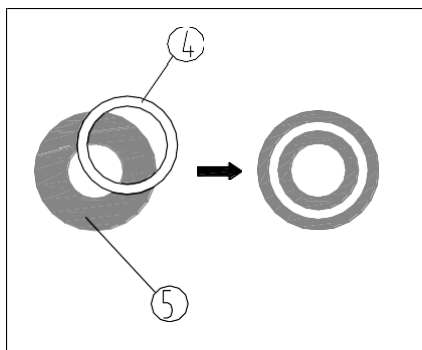

Fig. 38
(4) Adjust centering telescope to get a clear image of phase ring and halo in field of view (see Fig. 38).